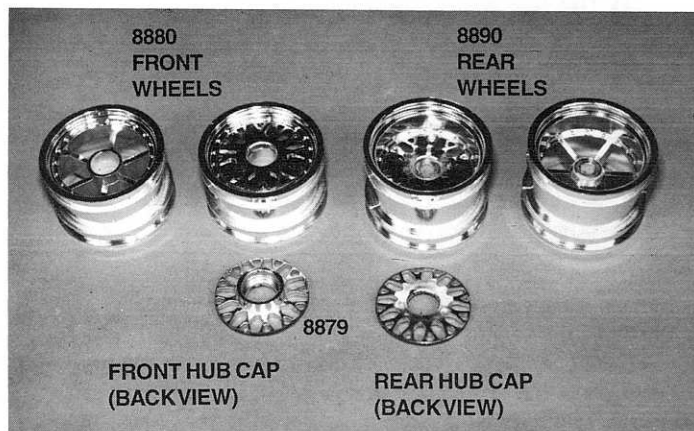

Fig. 122
□ **Figs. 122 & 123** 1) You can now take out the wheel and hubcap bag. In this bag you will find two #8880 chrome metalized front wheels, two #8890 chrome metalized rear wheels and four #8879 gold colored wheel hub cap inserts. The hub caps in your kit will be a BBS style commonly used on many race cars. Fig. 122 shows you two front and two rear wheels. One of each will have the #8879 hub caps installed the other do not so you can see the difference. At the bottom of the photo you will see a back view of one front and one rear #8879 hub caps. 2) Trim off any of the molding gate left in the center of the hub cap before snapping them in place. Install the hub caps into each wheel so that the front of the wheel and hub cap are on the same side. The hub caps are designed to snap into place.